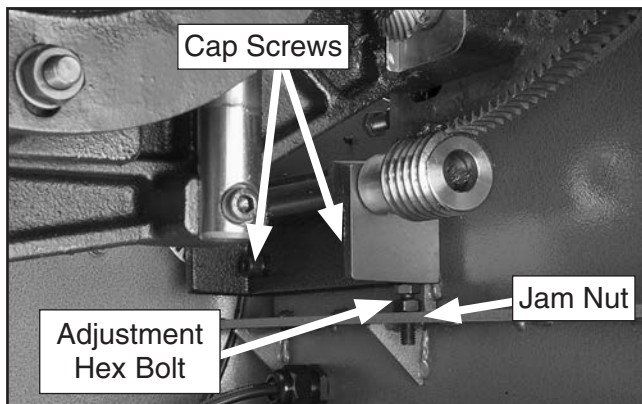

Figure 145. Table tilt handwheel adjustment.
3. Unscrew the tap screws securing the angle sensor cover, then remove it, and loosen the two cap screws and the jam nut shown in **Figure 145**.